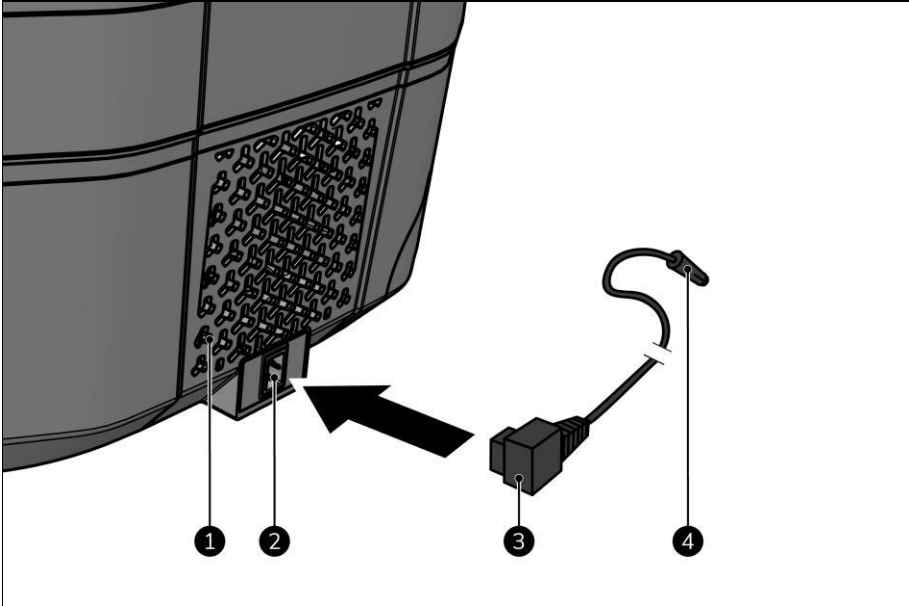

Figure 6
2. Make sure that all three ventilation grills (Figure 6, pos. 1) have at least 5 cm of ventilation space.
3. Place the power connector (Figure 6, pos. 3) into the power supply of the device (Figure 6, pos. 2).
4. Place the auxiliary power plug (Figure 6, pos. 4) into an easily accessible 12V or 24V auxiliary power supply in a vehicle or vessel.